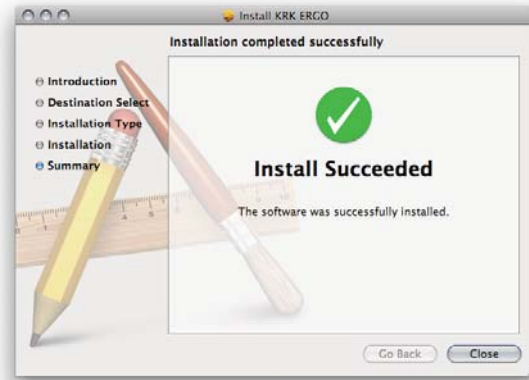

Figure 3.24
5. The software was successfully installed. Click **Close**. (Figure 3.24)